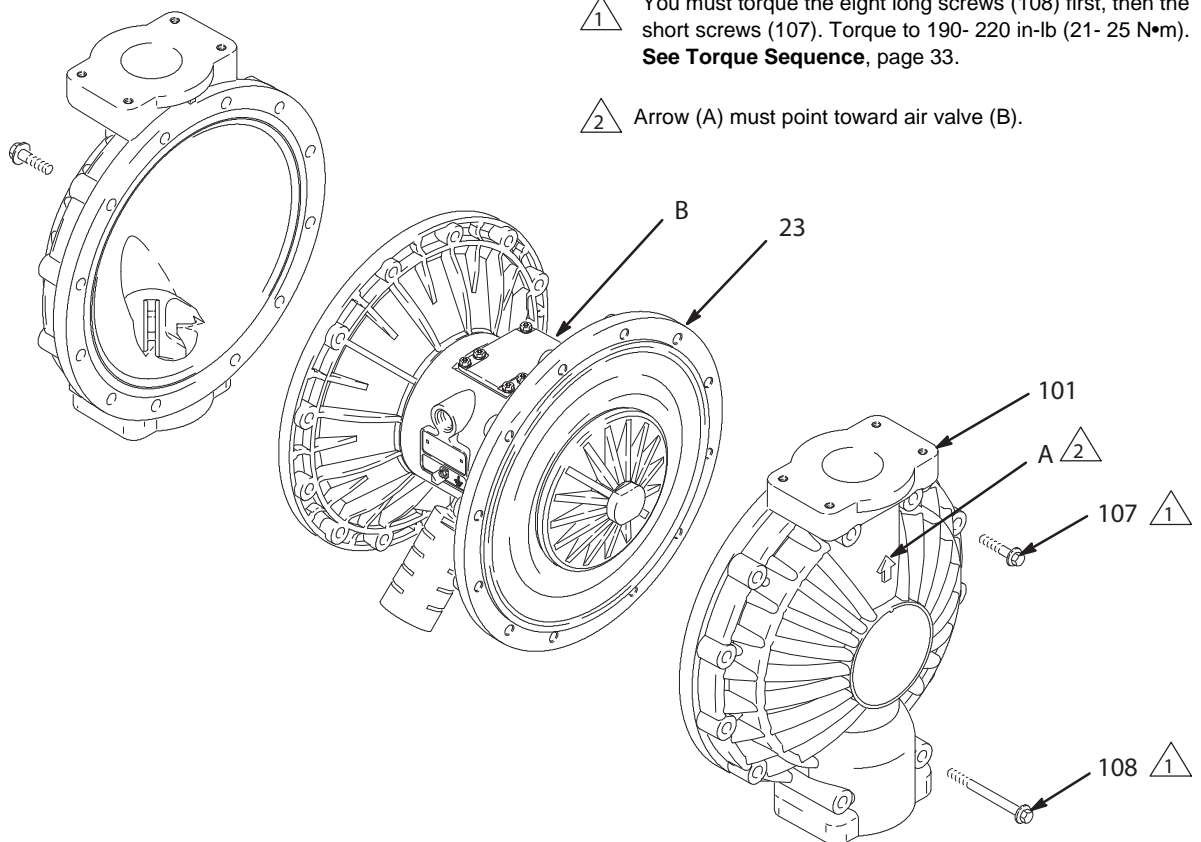

Fig. 12
3. Using 13 mm socket wrenches, remove the screws (107 and 108) holding the fluid covers (101) to the air covers (23). Pull the fluid covers (101) off the pump. See Fig. 12.
4. Apply medium-strength (blue) Loctite® or equivalent to the threads of the fluid-side plates (105). Hold one of the outer plates (105) with a wrench, and torque the other outer plate to 20 to 25 ft-lb (27 to 34 N•m) at 100 rpm maximum. **Do not over-torque.**
5. Align the fluid covers (101) and the center housing (1) so the arrows (A) on the covers face the same direction as the air valve (B). Secure the covers with the screws (107 and 108), handtight. Install the longer screws (108) in the top and bottom holes of the covers. See Fig. 12.
6. First, torque the longer screws (108) oppositely and evenly to 190- 220 in-lb (21- 25 N•m), using a 13 mm socket wrench. Then torque the shorter screws (107). See **Torque Sequence**, page 33.